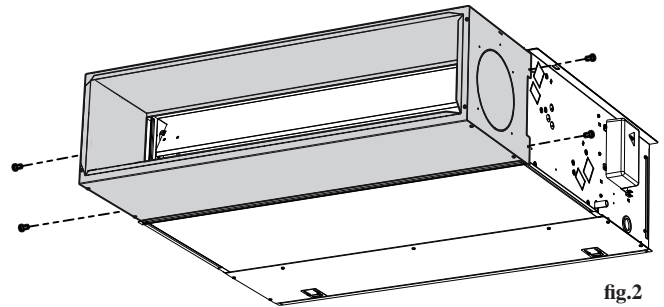

fig.3
- Install the two fixing brackets in the appropriate side slots and fasten them using the two screws provided (fig.3).